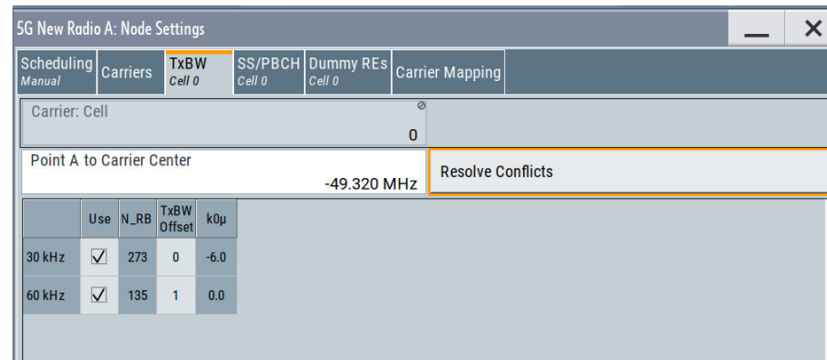

Fig. 2-3: Node settings window configuration for Tx BW
- 1 Select both 30 KHz and 60 KHz and hit Resolve Conflicts as shown in Fig. 2-3